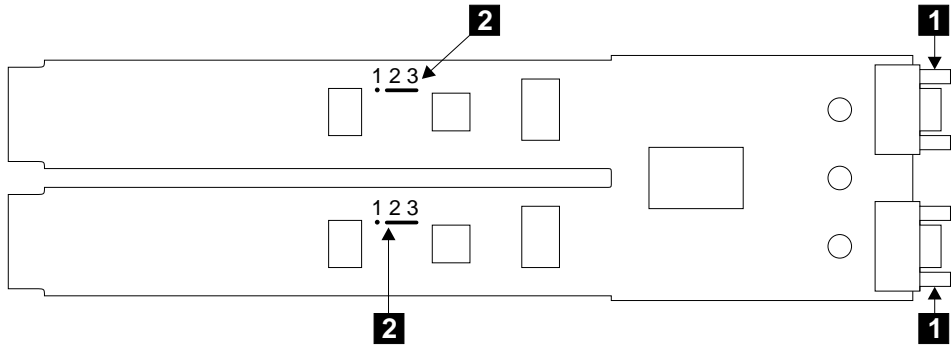

Figure 51. Bypass Card Set for Automatic Mode
Step 5. Refer to Figure 51.
Step 7. Note that, in Figure 51, the jumpers are set for **Automatic Mode**. That is, the jumpers **2** connect pins 2 and 3.
- a. Remove the jumpers, and install them into the required positions (see figures 51 and 52).